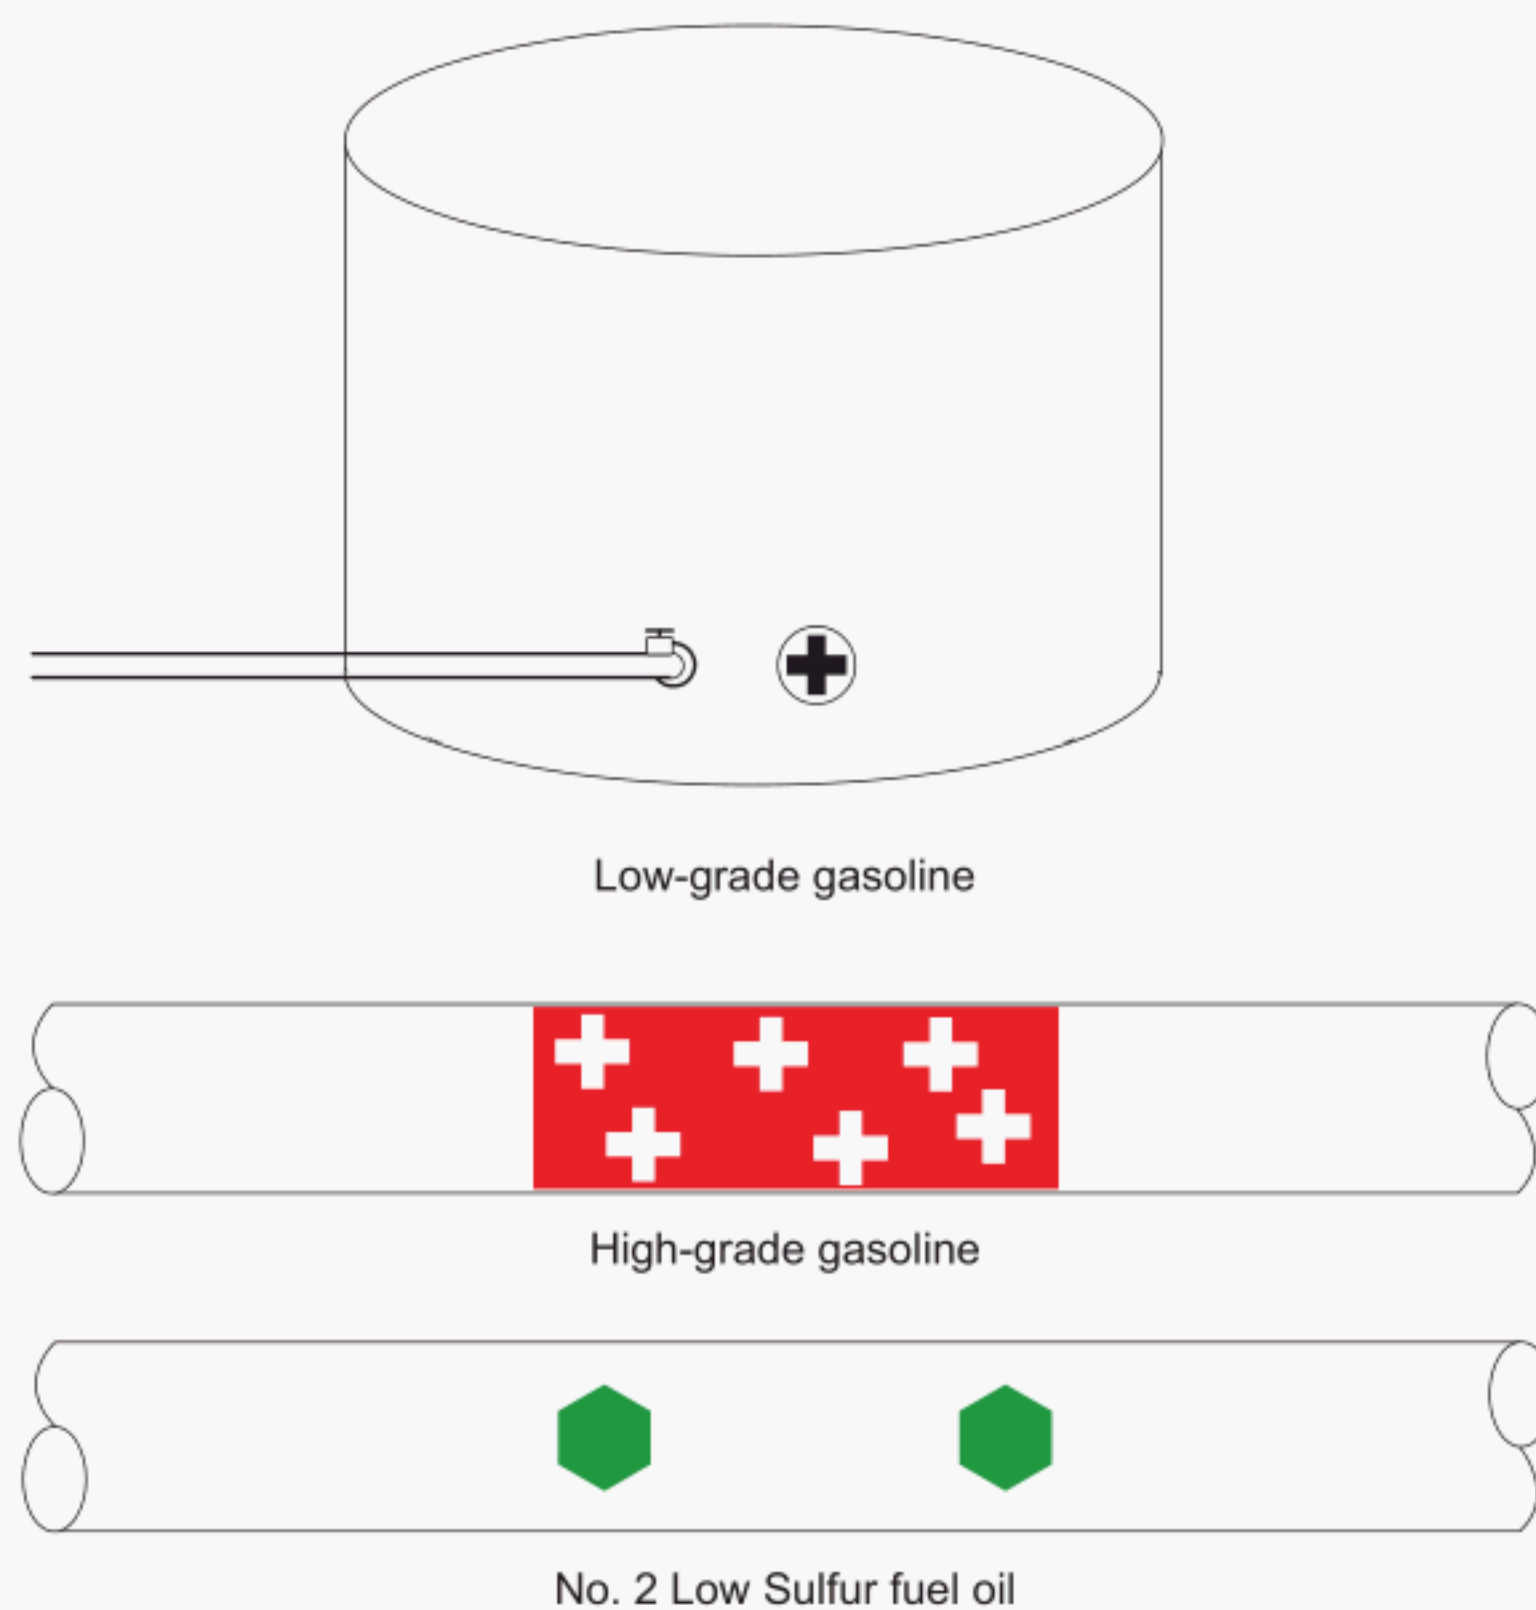

Figure 3—Examples of Application of the System to Tankage and Piping at Distribution Terminals
3.3.1 Tank truck, tank-car, and marine loading and unloading facilities shall be identified by means of this system (see Figure 3). Markings should be as close as possible to the point of product transfer.